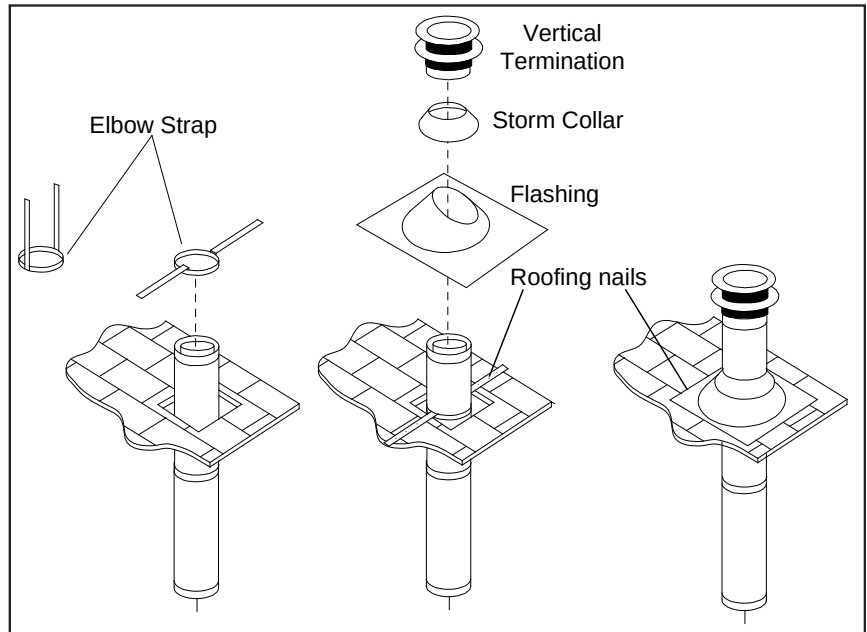

Figure 43. Vertical Vent Termination
- STEP 6.** Once the pipe sections have been joined, and run up through the hole in the roof, slip an elbow strap over the exposed sections, bend the support straps outwards, and push the elbow strap down to the roof level, as shown in Figure 43. Tighten the clamp around the pipe section. Use a level to make sure the pipe is truly vertical. With roofing nails, secure the support straps to the roof. Seal the nails holes heads with non-hardening mastic. Trim the excess length of the support straps that extend out beyond the edge of the flashing.
- STEP 9.** Slip the storm collar over the pipe, and push it down to the top of the roof flashing as shown in Figure 43. Use the non-hardening sealant around the joint between the pipe and the storm collar.